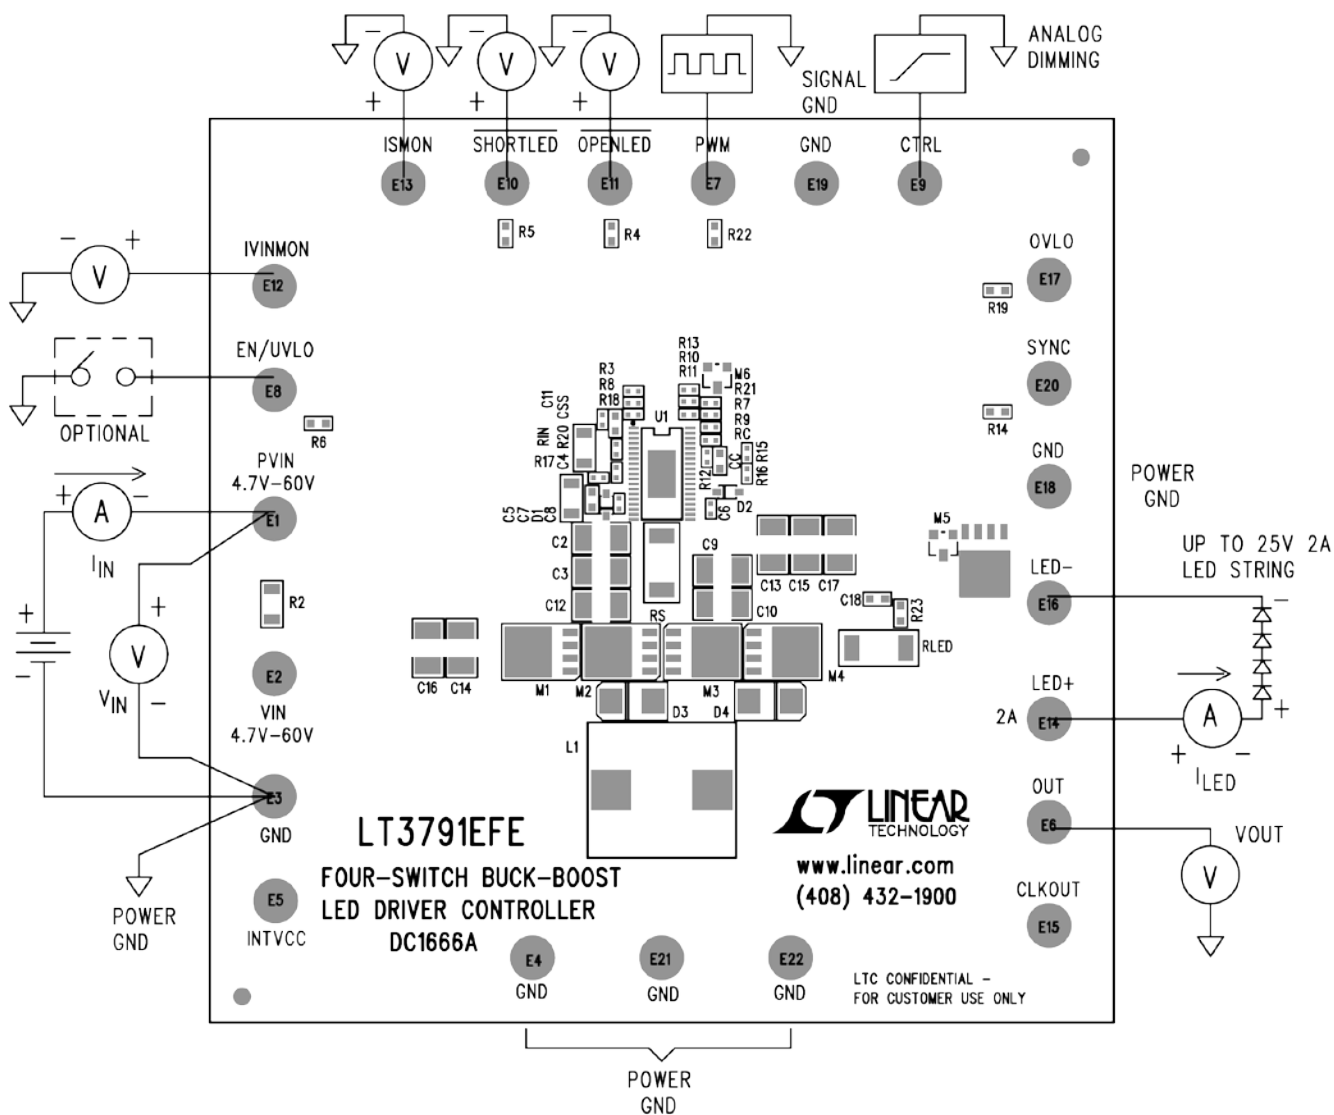

Figure 1. Test Procedure Setup Drawing for DC1666A
1. Connect a string of LEDs that will run with forward voltage less than 25.5V, but greater than 9.5V, to the LED⁺ and LED⁻ terminals on the PCB as shown in Figure 1.